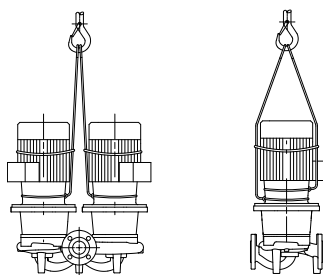

Fig. 7: Attaching the pump
- The transport eyes on the motor are only for guiding while bearing the load (Fig. 7).